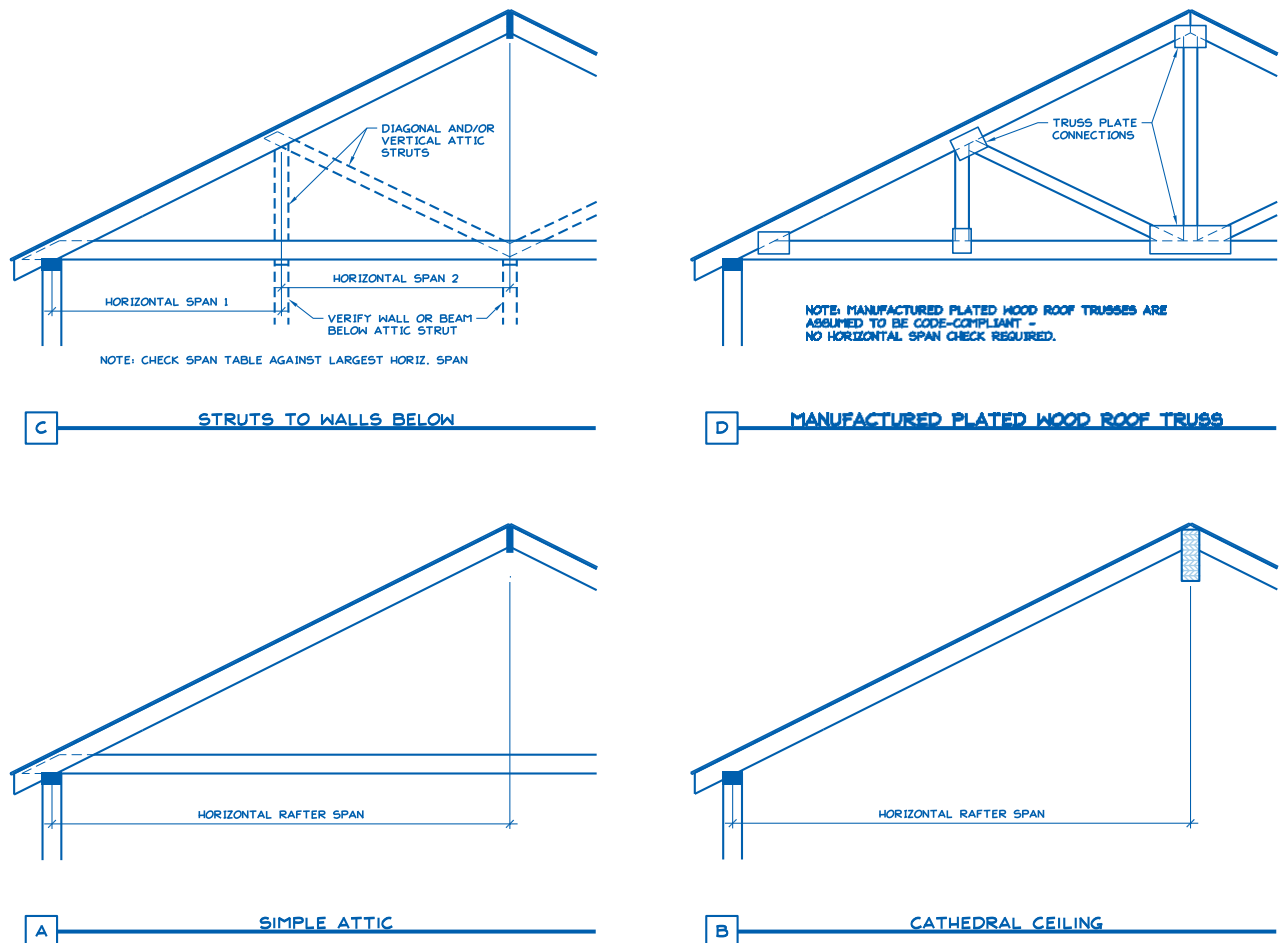

Figure 4. Definition of Rafter Horizontal Span.
- 5) Measured rafter horizontal span (see Figure 4): _____' - _____' ft-in
1. See Figure 4 for definition of roof rafter maximum horizontal span.